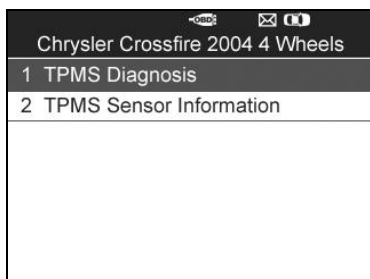

Figure 3.18
- 5) An option screen will appear, use **UP/DOWN** scroll button to select **TPMS Diagnosis** function in the menu, and press the **Y** button to continue. (Figure 3.18)